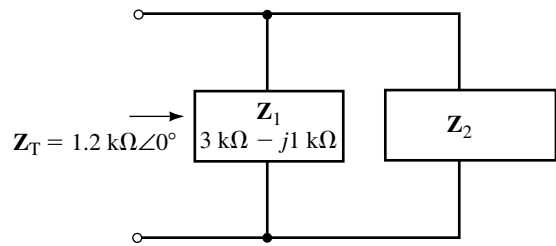

FIGURE 18–108
38. Determine the impedance, $\mathbf{Z}_2$, which will result in the total impedance shown in Figure 18–108.